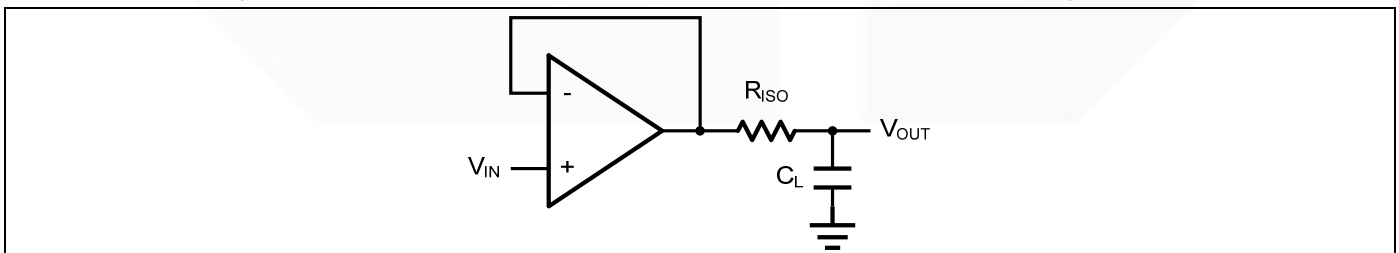
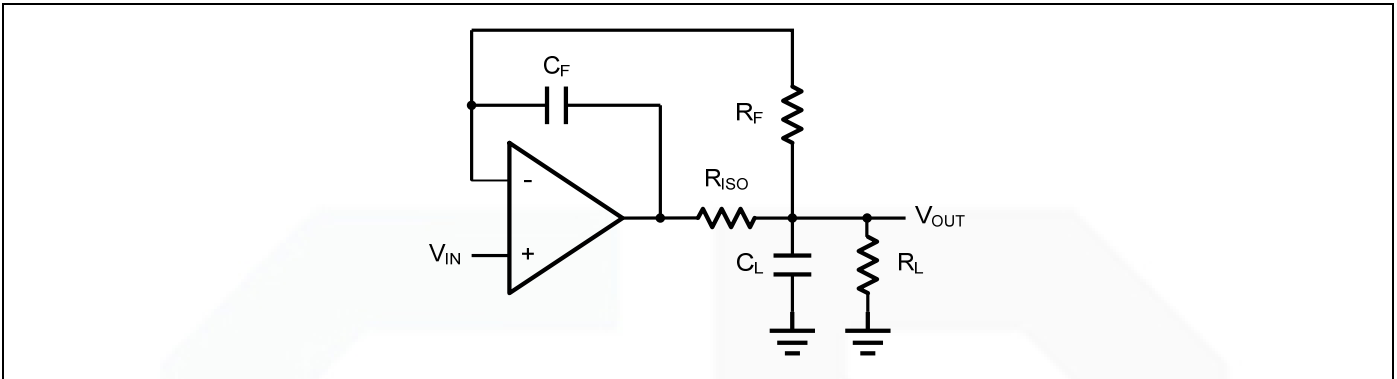

Figure 2. Indirectly Driving a Capacitive Load Using Isolation Resistor
Figure 3. Indirectly Driving a Capacitive Load with DC Accuracy
The GS809X family is optimized for bandwidth and speed, not for driving capacitive loads. Output capacitance will create a pole in the amplifier's feedback path, leading to excessive peaking and potential oscillation. If dealing with load capacitance is a requirement of the application, the two strategies to consider are (1) using a small resistor in series with the amplifier's output and the load capacitance and (2) reducing the bandwidth of the amplifier's feedback loop by increasing the overall noise gain. Figure 2. shows a unity gain follower using the series resistor strategy. The resistor isolates the output from the capacitance and, more importantly, creates a zero in the feedback path that compensates for the pole created by the output capacitance.
The circuit in Figure 3 is an improvement to the one in Figure 2. R_F provides the DC accuracy by feed-forward the V_{IN} to R_L . C_F and R_{ISO} serve to counteract the loss of phase margin by feeding the high frequency component of the output signal back to the amplifier's inverting input, thereby preserving the phase margin in the overall feedback loop. Capacitive drive can be increased by increasing the value of C_F . This in turn will slow down the pulse response.